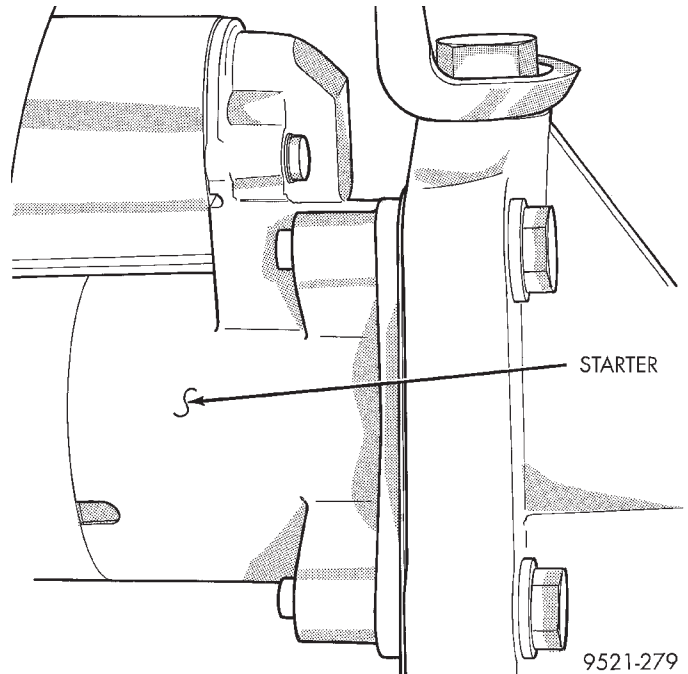

Fig. 51 Starter
(14) Remove engine oil filter.
(15) Remove starter and wiring (Fig. 51).